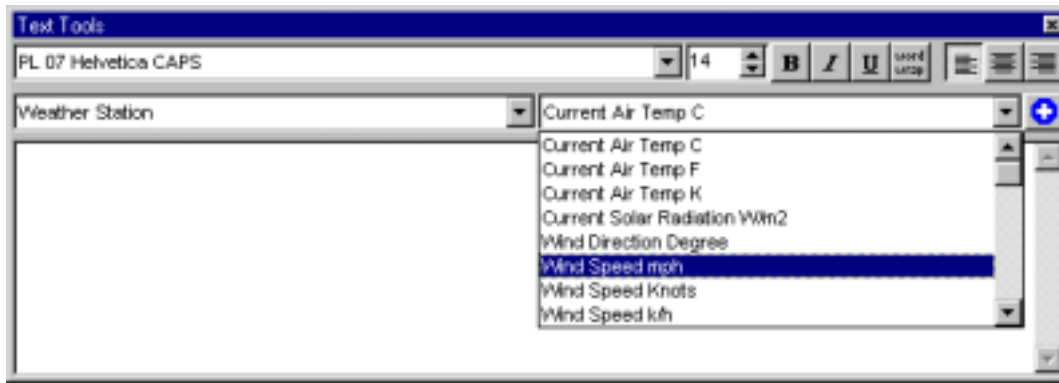

FIGURE 5.3-3. When the weather station source has been chosen, several meteorological conditions reported in various units are provided under the field menu.
4. Select the desired field (Figure 5.3-3).